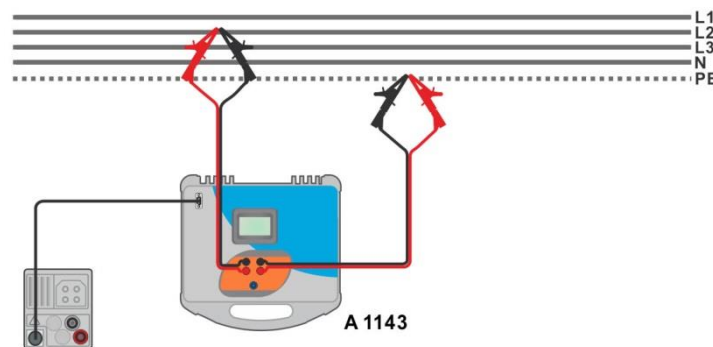
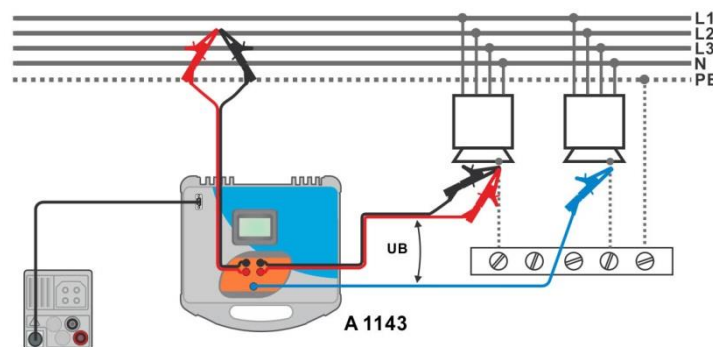

Figure 7.35: High precision Loop impedance measurement – Connection of A 1143
Figure 7.36: Contact voltage measurement – Connection of A 1143
- › Connect test leads to the object under test, see **Figure 7.35** and **Figure 7.36**.